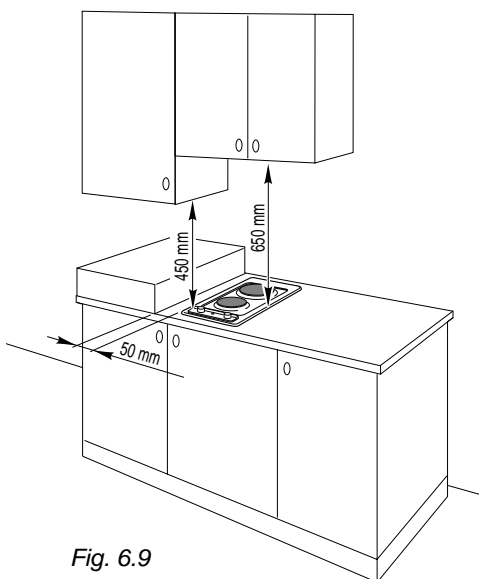

Fig. 6.9
- there must be a distance of at least 650 mm between the hob and any wall cupboard or extractor hood positioned immediately above (see fig. 6.9).